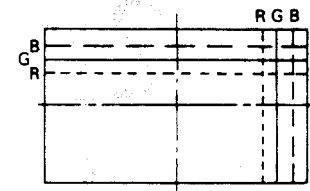

Figure 3-9.
Insert wedges (b) and (c) between the deflection yoke and CRT, and tilt the deflection yoke downward until the mis-convergence shown in Fig. 3-9. is corrected.
- Convergence in Fig. 3-9.:
Insert wedge (c) deeply between the deflection yoke and CRT, and tilt the deflection yoke to right until the mis-convergence shown in Fig. 3-9. is corrected.